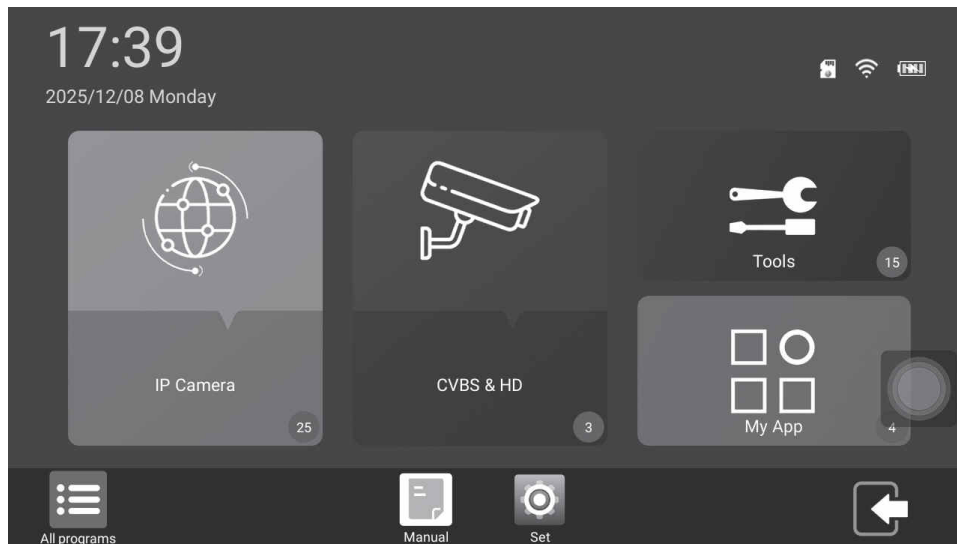

Figure 1 System Desktop
(See Figure 1.)
1) The status bar icons in the upper right indicate the SD card status, network connection status, and battery level. The upper left shows the time and date. (See Figure 1.)